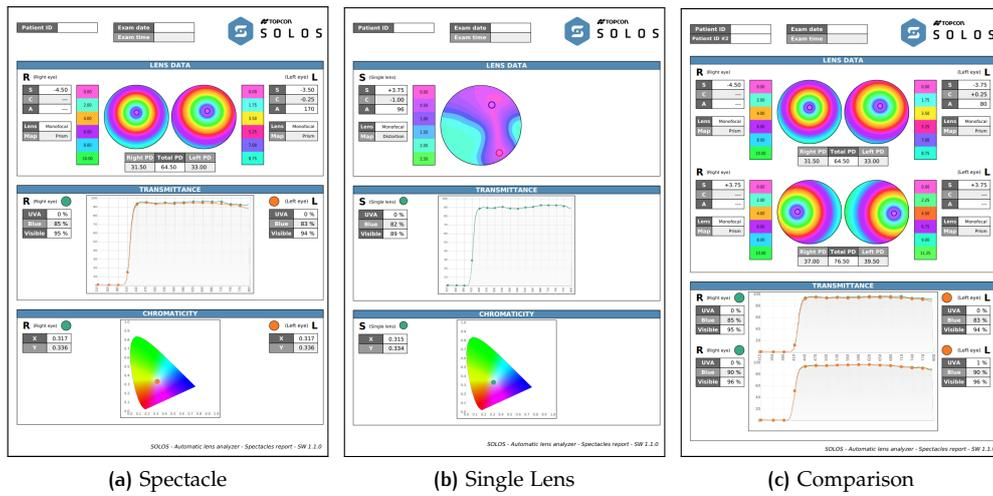

Figure 36: Report PDF
- **PDF** It's a PDF report containing the results of a spectacle or single lens measurement (Figure 36 (a) and (b)). The map in the report is the current map selected in the main view. PDF report can also be exported in comparison (Figure 36 (c)), but only when both the slot are full. User can select between **A4** and **Letter** pagesize format.